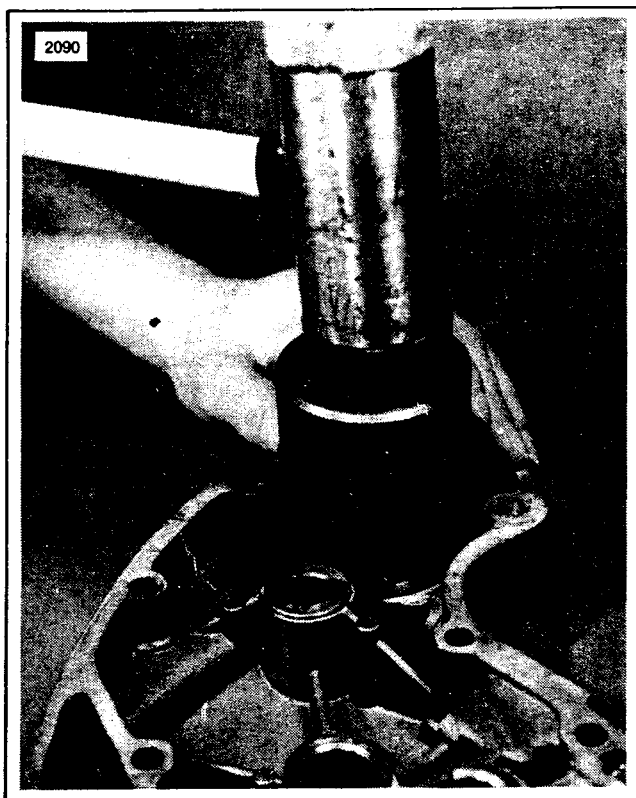

Figure 3. Late Style Breather Installation
3. See Figure 3. Install the late style breather valve until the base plate shoulder seats squarely on the gearcase cover casting.